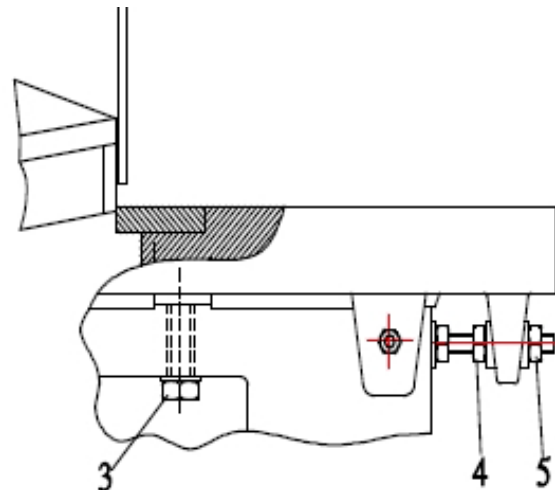

Fig. 12: Adjusting the cutting gap
Step 7: Remove screw (Pos. 3, Fig. 12).
Step 8: Increase or decrease the cutting gap using the adjusting screw in areas (Pos. 4 and 5, Fig. 12).